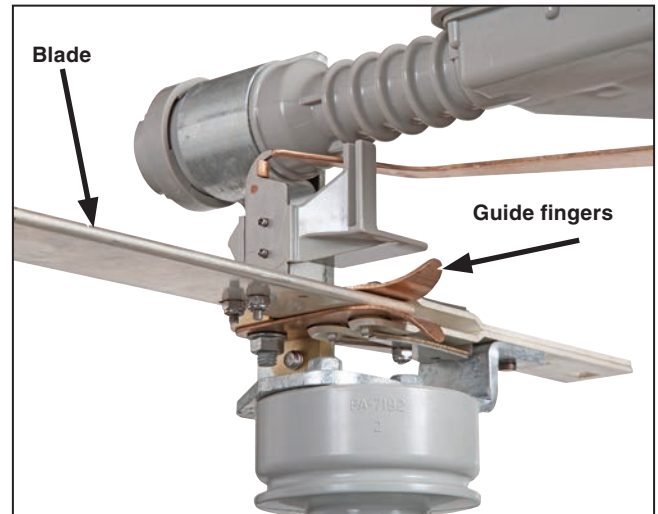

Figure 20. Blade and contact assembly in the fully Closed position.
- (a) With the operating handle as far as it will go in the closing direction, all main contacts of the interrupter switch are in the fully **Closed** position. See Figure 20.